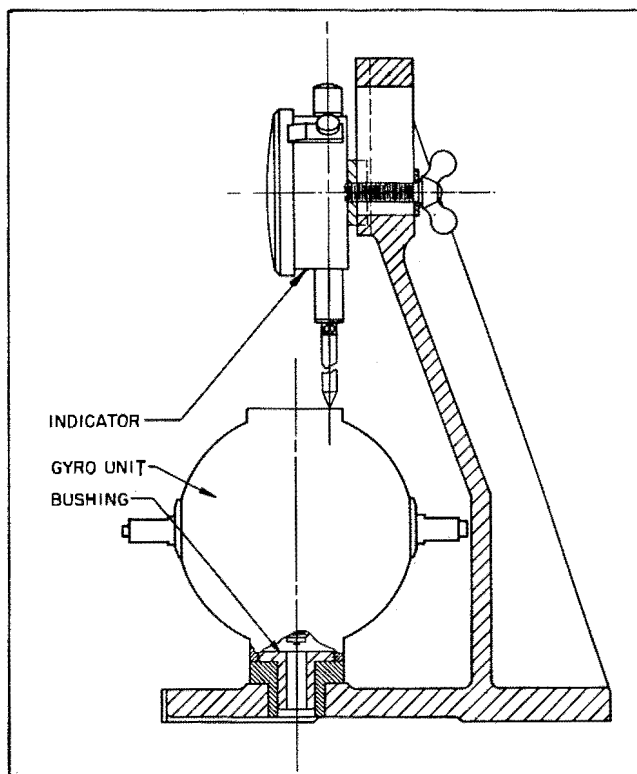

Figure 47J-1. End Play Fixture 1000362
(c) After the gyro unit is balanced, lock one side with an outer gear lock nut (10, figure 47J), using Wrench 1000546. To prevent damaging the case of gyro when locking the other outer lock nut use End Play Fixture 1000362 as follows:
2. Place the gyro unit on the end play fixture, slipping the bushing into the socket as shown in figure 47J-1.
4. Using a metal pick, turn inner gear lock nut (12 figure 47J) on the upper end counterclockwise until the dial indicator shows a 0.0001 to 0.0003-inch distortion.
(e) Coat the threads of a new pinch-off tube (2) with Minnesota Mining Sealing Compound EC-1130 and screw the pinch-off tube in the shell. The gyro unit is now completely assembled and all parts should be in place as shown in cross-section view, figure 47J.